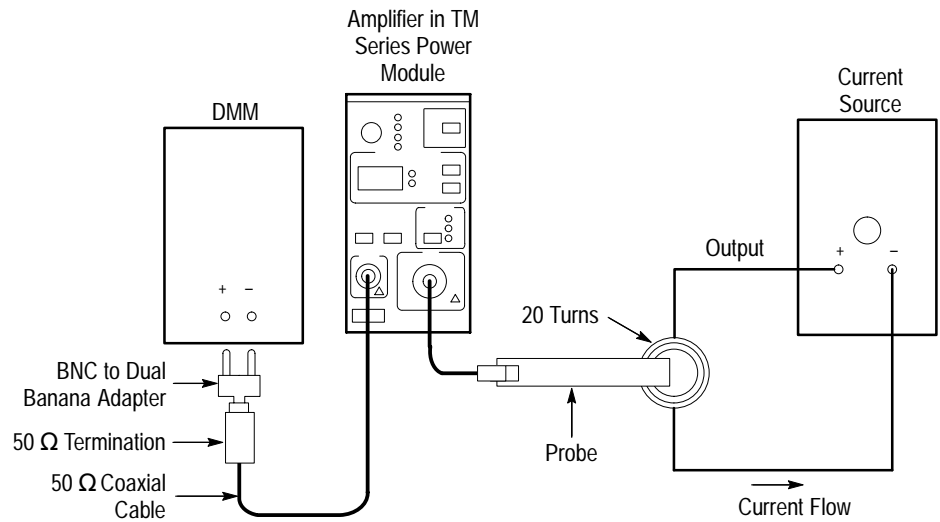

Figure 14: DC Gain Accuracy Test Setup for A6302/A6302XL
2. Connect the current loop to the current source as shown in Figure 14.
3. Clamp the current probe around the 20 turn current loop, as shown in Figure 14 on page 41. Verify that the arrow-shaped indicator on the probe points away from the current source.